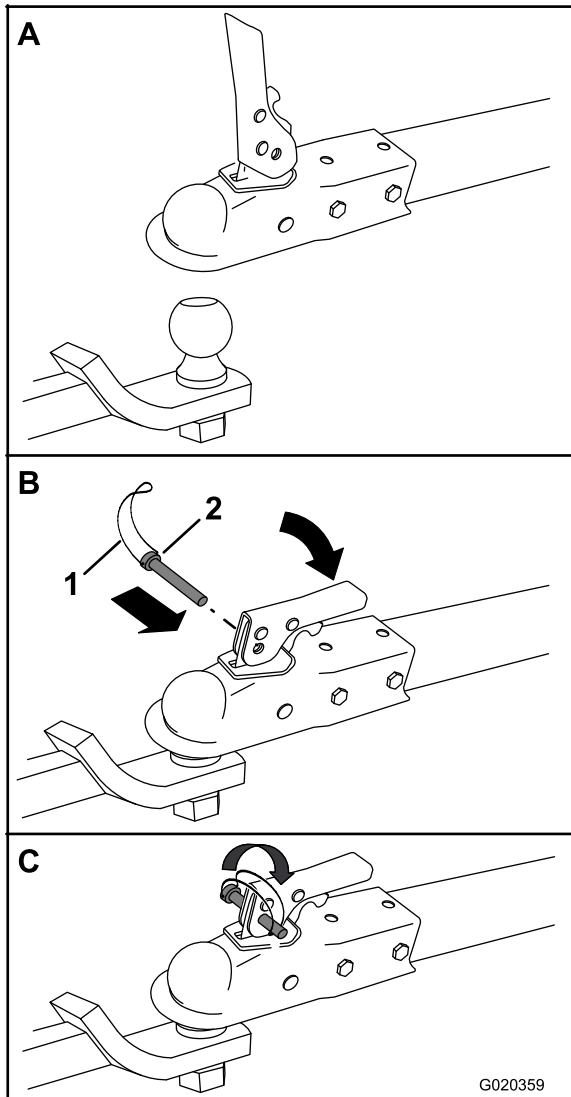

Figure 17
2. Open the coupler latch (Figure 17).
3. Position the coupler on top of the hitch ball (Figure 17).
4. Close the coupler latch (Figure 17).
5. Open the bail on the safety pin and insert the pin through the hole in the latch (Figure 17).
6. Rotate the free end of the bail over the end of the safety pin that is protruding through the latch (Figure 17).